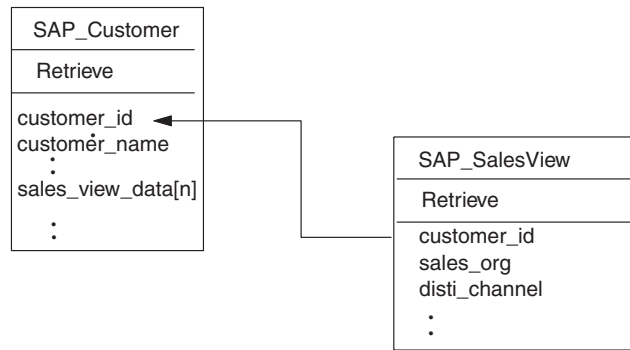

Figure 34. Example customer and sales view relationship
- In a multiple-cardinality relationship, the foreign key is determined by the primary key in the child referencing the **primary key** attribute in the parent. Each child has at least one simple attribute that contains the parent's primary key as a foreign key. The child has as many foreign-key attributes as the parent has primary-key attributes. Figure 34 on page 227 provides an example.
Figure 34 on page 227 provides an example of a different WebSphere business object developed to process customer objects in SAP. This example SAP_Customer has a multiple-cardinality relationship to the example sales view object that it contains (the sales_view_data[n] attribute has cardinality n). The primary key attribute (customer_id) in the child business object references the primary key (customer_id) in the parent business object.